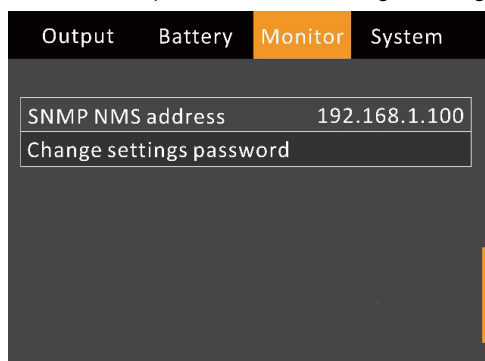

Figure 3-19 Changing settings password
2. Press the  key, then press the  key to select the 'Change settings password', see Figure 3-19.